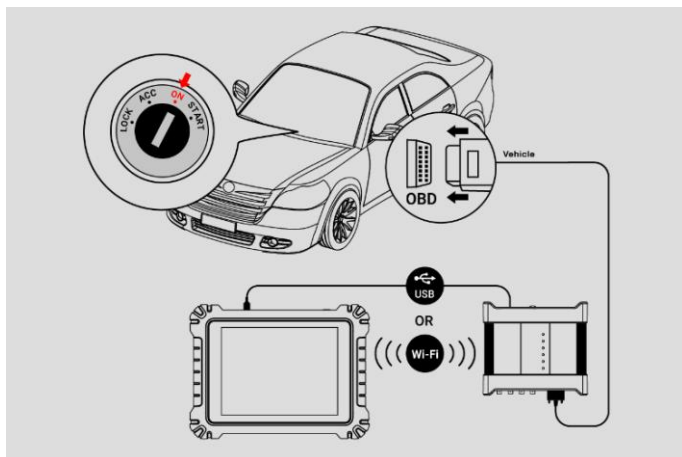

Figure 1-1 Sample Connection Diagram
1. Please refer to **Figure 1-1 Sample Connection Diagram** to complete the connection. Place the ignition in the key on position.